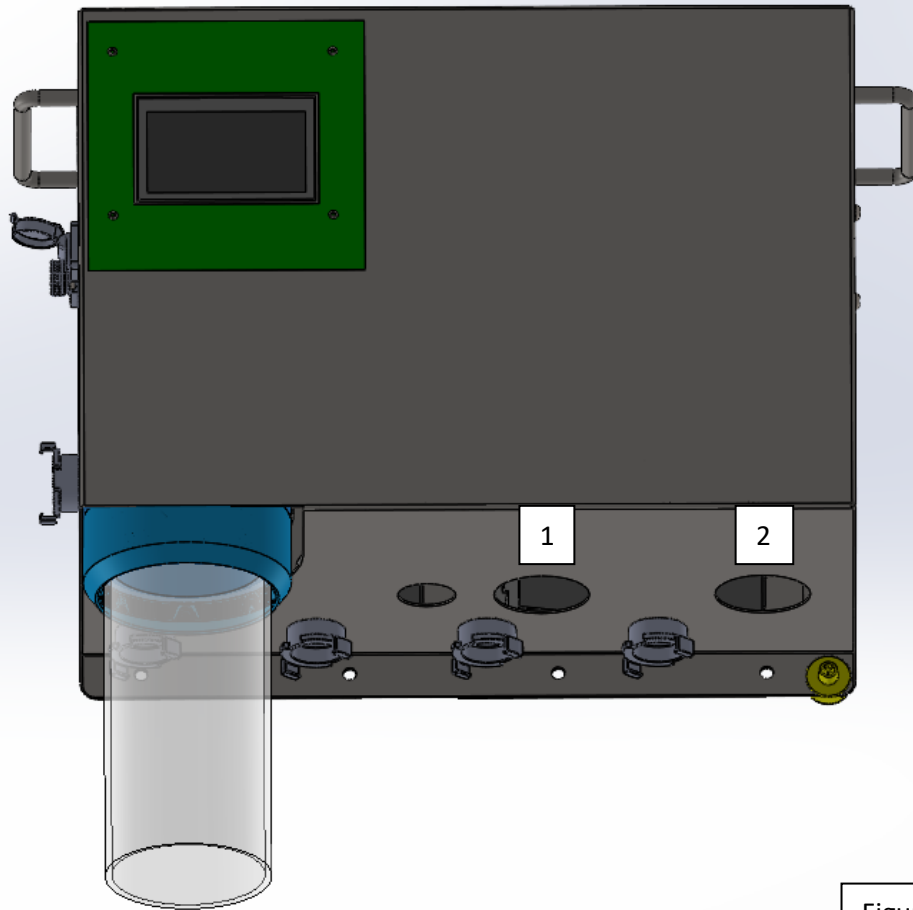

Figure 3
The pump at the left hole (1) must be connected to Hoofclean. The pump at the right hole (2) is meant to dose another different product (see figure 3).